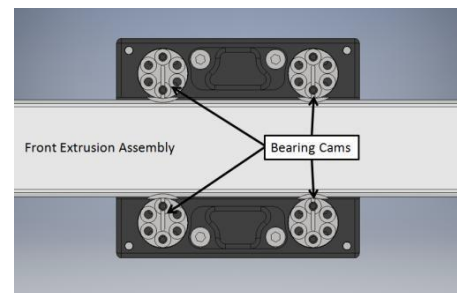

Figure 2
- 4) Make note of the orientation of the slots in the Roller Cams. Remove the eight M2.5x8 FHPH and turn the Roller Cams so that the slots are pointed at the Front Extrusion Assembly (Figure 2).